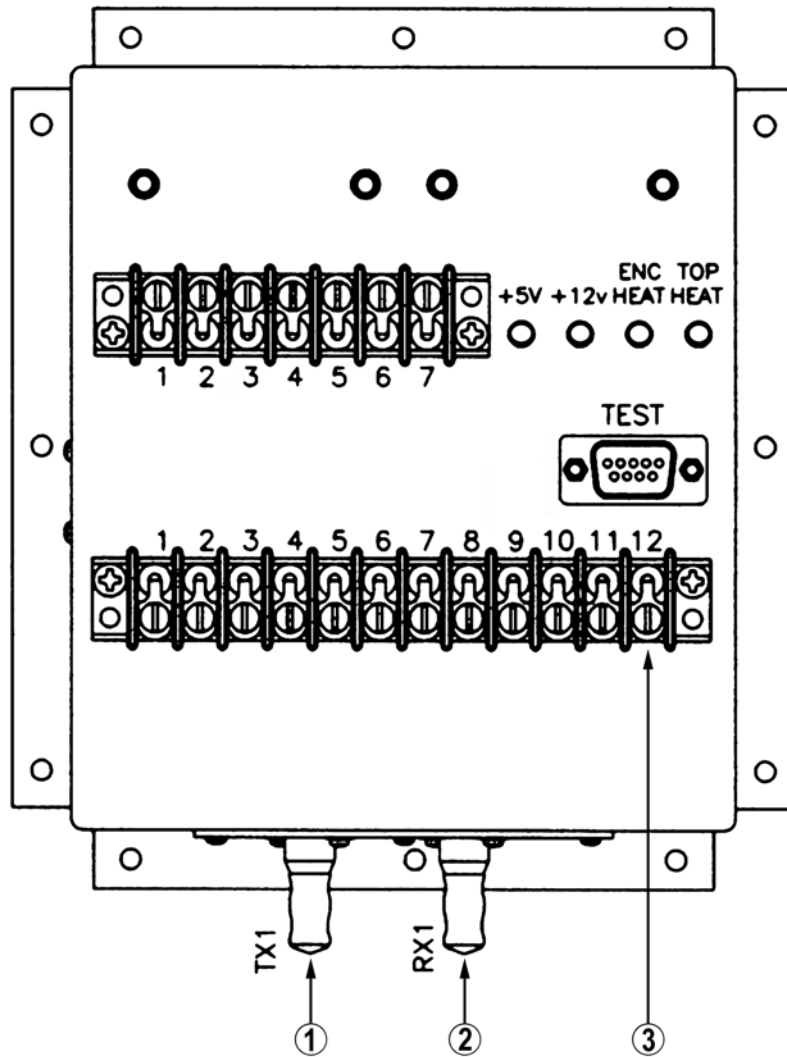
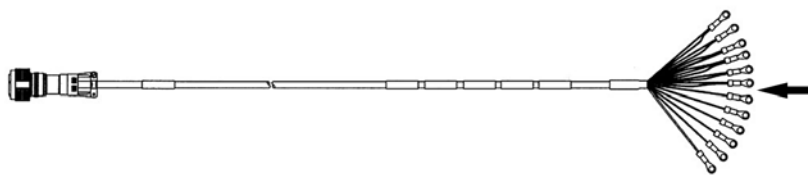
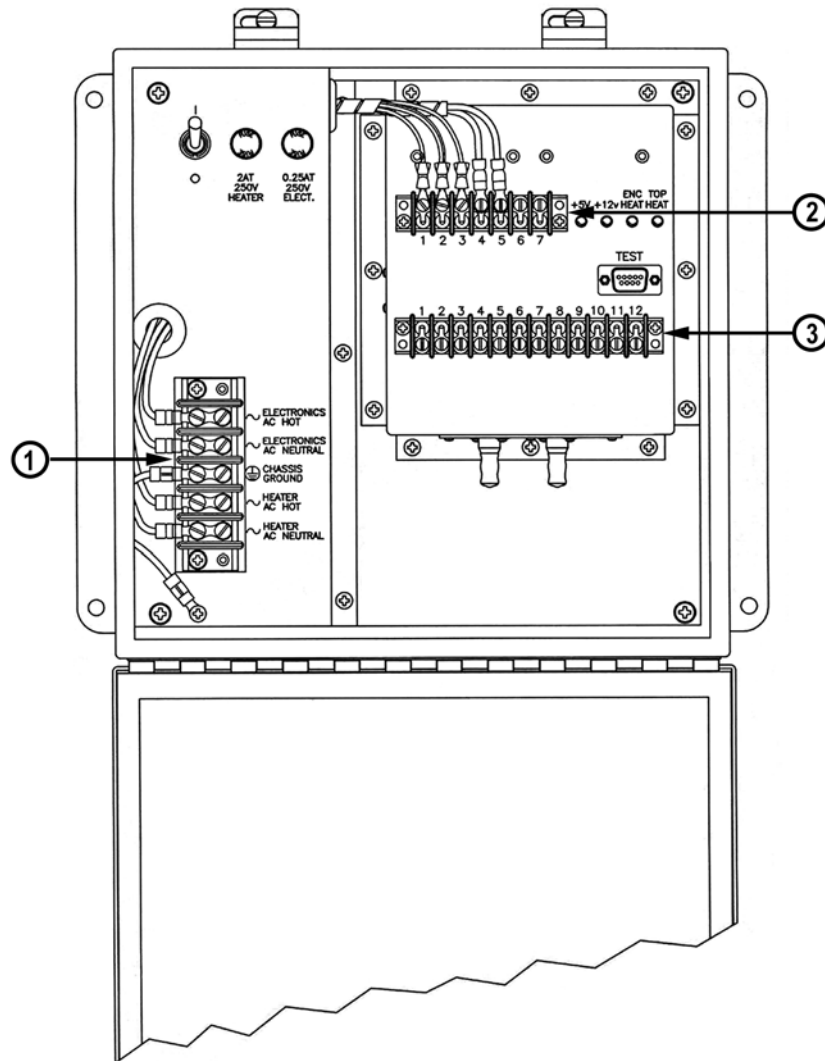

Figure 5 Power Supply and FOM Module Assembly
Figure 6 Cable Assembly, Sensor
Figure 11 Power Supply Terminal Blocks
- Power supply, WS425PowerUS or WS425PowerEU (item 2)
- Module assembly, power supply (item 3)
- Fiber optic modem assembly (item 4)
- Cable assembly, sensor WS425 F/G (Figure 6 on page 21)
The following numbers refer to Figure 5 on page 20:
- 3 = 12-position terminal block (TB2, see also Figure 11 on page 30 and Table 2 on page 31)
The sensor interface cable assembly is 11.2 m in length. The 12 ring lugs (indicated by the arrow in Figure 6 on page 21) of the sensor interface cable are each numbered 1-12. Connect them to the correspondingly numbered terminal positions in the power supply assembly terminal block 2; see Figure 5 on page 20, Figure 11 on page 30 and Table 2 on page 31.
The fiber optic cable is connected to the connectors of the fiber optic modem located in the power supply module assembly and at the other end to the connectors of the optional FOM111 fiber optic modem. The FOM111 in turn is connected to the host system personal computer/data logger via an RS-232 cable. Note that the RS-232 cable between the PC/data logger and the fiber optic modem is different than the one used between the PC and the TEST connector in the power supply module (see Figure 5 on page 20).
2. Connect the AC power wires to the AC power terminal block as shown in Figure 11 on page 30, starting with the green wire. Double-check that each wire is connected as shown in Figure 11 on page 30.
3. Connect the 12 ring lugs of the sensor interface cable to the 12-position terminal block (see Figure 11 on page 30). Follow the numbering scheme next to the terminal block and on the labels of the individual wires.
The following numbers refer to Figure 11 on page 30: